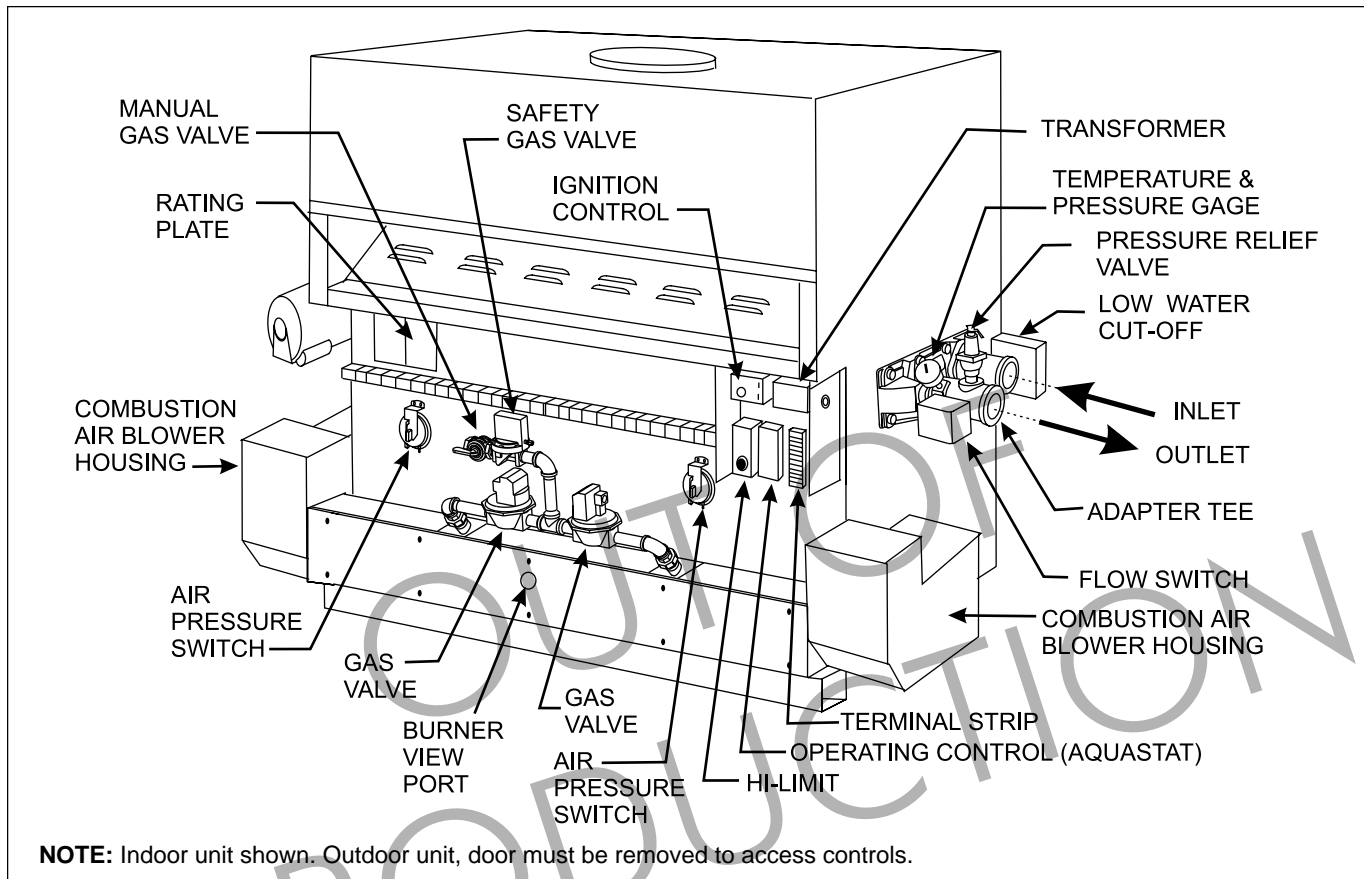

Figure 17. Controls Location.
(See Figures 17 and 18)
2. The ignition control turns on the combustion blower. After about a 15 second pre-ignition purge, while the blower clears the combustion chamber, the igniter is turned on. The igniter takes about 25 seconds to heat up. A glow can be seen through the view port (see Figure 17).